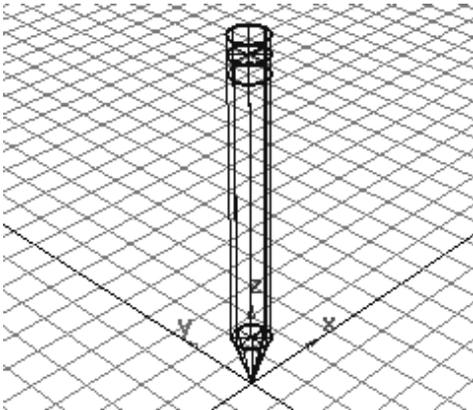

Figure 2-116 Model after creating the eraser holder
- Enter **0, 0, 950** in the promptline and press ENTER; the eraser holder is created in the window, as shown in Figure 2-116.